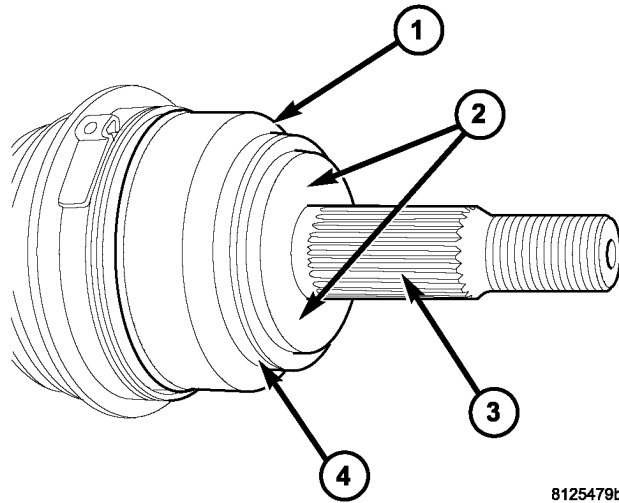

Fig. 4 OUTER C/V JOINT
14. **Clean the CV joint surface and splines. Slide the gasket, p/n 04809863AB, over the C/V joint splines with the gasket against the C/V joint surface, item 2, (Fig. 4).**